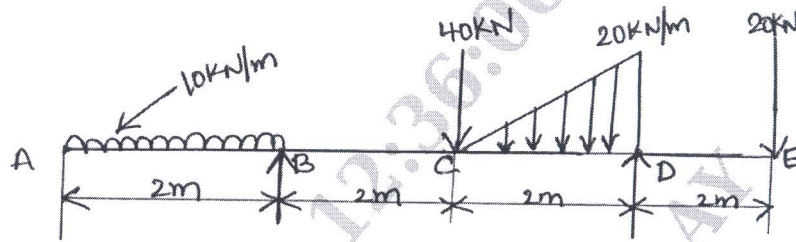

Fig.Q6(b)
b. Draw the shear force and bending moment diagram for the beam given in Fig.Q6(b). Locate the points of contraflexure. (16 Marks)